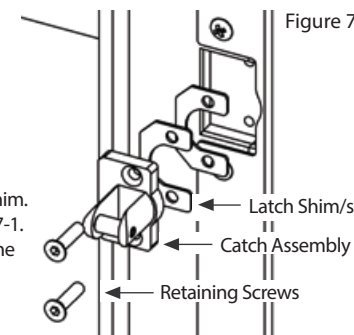

Figure 7-1
- Additional shims are provided in the user manual packaging. Refer to figure 7-1.